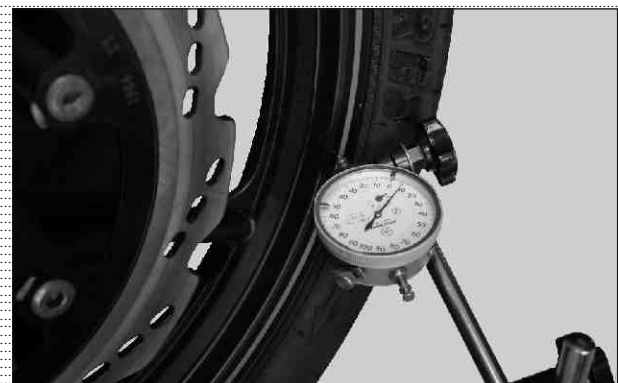

Fig. 6.6
- Using the special tools, measure run out of alloy wheel front. An excessive amount of run-out is usually due to a bent alloy wheel. (Fig. 6.6)